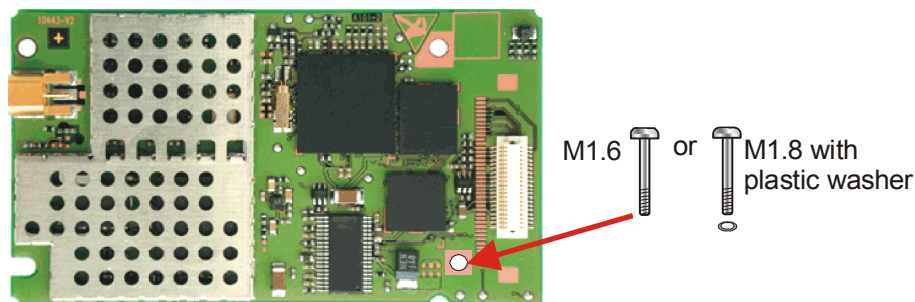

Figure 27: Recommended screws
- The board-to-board connector soldering pattern is placed close to the mounting hole. To avoid that the screw comes into contact with the connector or the BATT+ power supply line, screw in either an M1.6 screw or, if you use an M1.8 screw, add a plastic washer. See Figure 27.